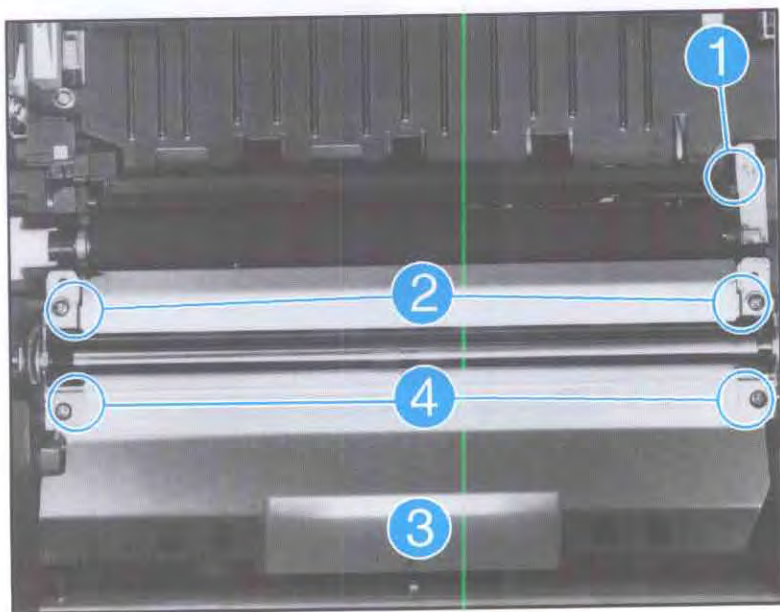

Figure 6-29. Registration Assembly
2. On the right end of the Transfer Roller, remove the (1) retaining clip (see Figure 6-29, callout 1).
3. Remove the (2) screws securing the Registration Assembly Guide and lift off the guide (see Figure 6-29, callout 2).
4. Lift the green handle on the Registration Assembly Cover (see Figure 6-29, callout 3) and remove the (2) final screws securing the assembly (see Figure 6-29, callout 4).
2. Remove the Registration Assembly (see Figure 6-29).
6. The Registration Assembly (see Figure 6-29).
7. The Registration Assembly (see Figure 6-29).